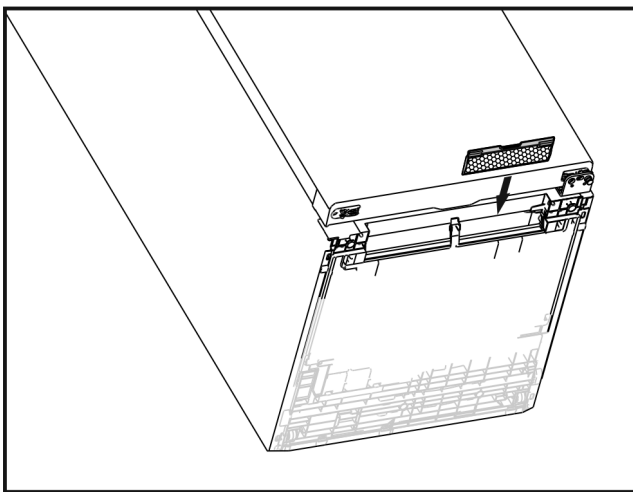

Fig. 4
- ▶ Slide the mosquito screen in as shown in the diagram (see Fig. 4).